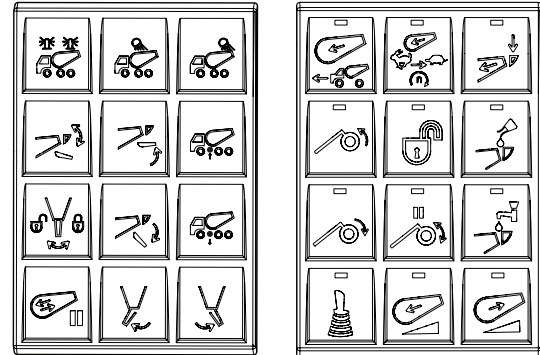
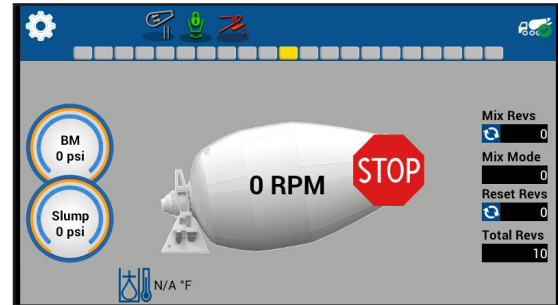

Figure 2
Figure 3
5. In-cab control keypads will illuminate briefly (Figure 2) and the touch screen display will power up (Figure 3).